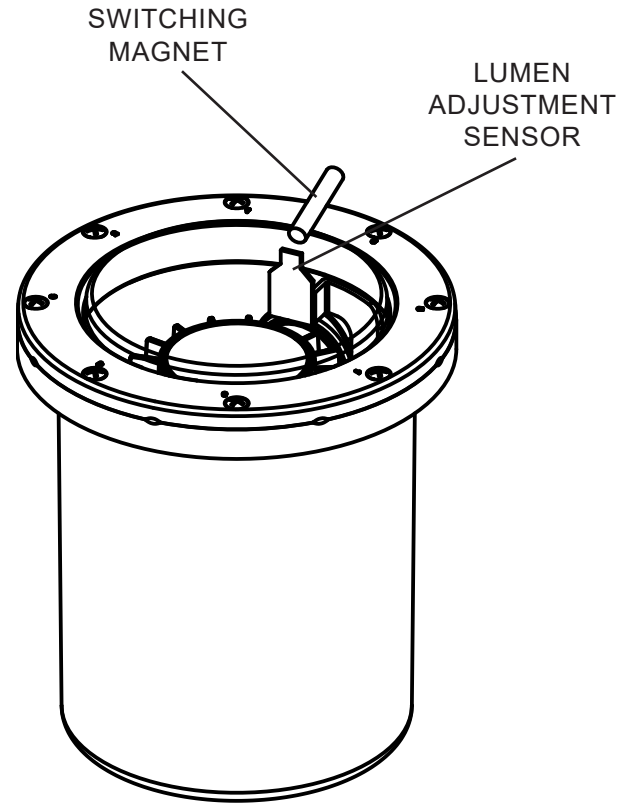

Figure 4
- Locate the lumen adjustment sensor at the top of the lighting fixture, See Figure 4.
- Place magnet over lumen adjustment sensor, over top of glass, for 1.5 seconds to begin programming mode. Move magnet away from sensor. See Figure 4.